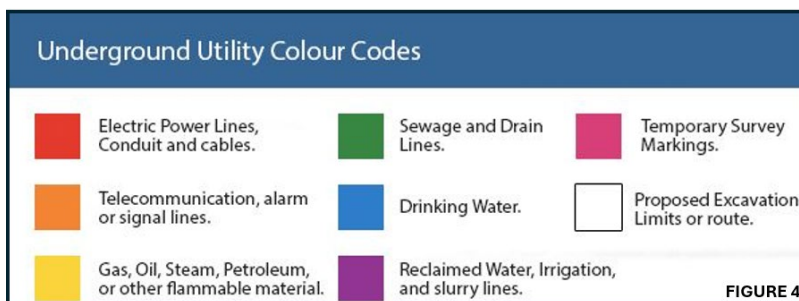

FIGURE 4
4. International Colour Code for utility markings, see FIGURE 4.